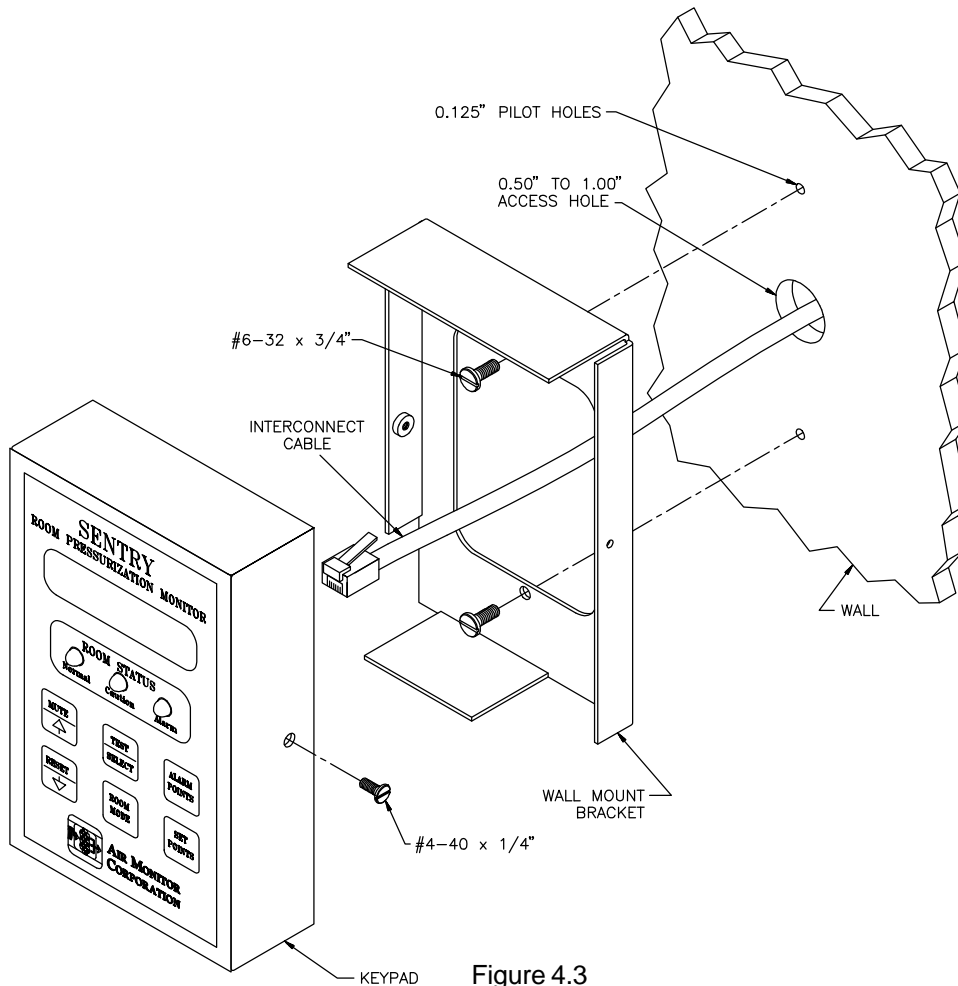

Figure 4.3
3. Remove the two #4-40 x 1/4" pan head screws on the sides of the Keypad Assembly and separate the wall mount bracket from the Keypad Assembly (see Figure 4.3).
5. Connect the plug on one end of the interconnect cable to connector P6 on the circuit board at the back of the Keypad Assembly (see Figure 4.3 and 5.4). Make sure the plug is oriented properly in receptacle.